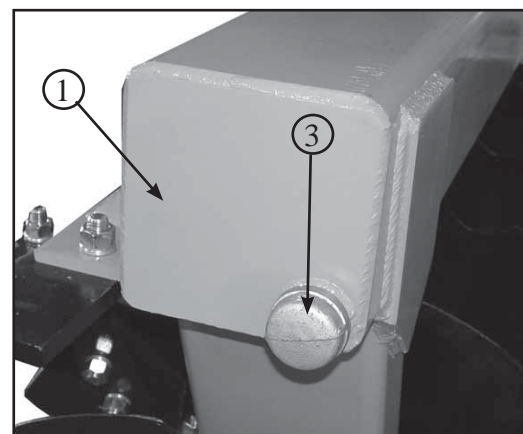

Figure 19
Figure 19 shows the drain plug (3) with one being located on both the front and rear gang frames.